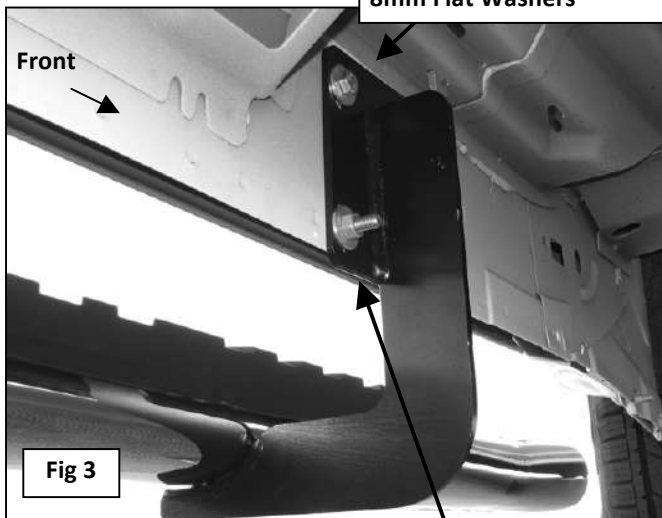

Fig 3
4. Partially attach the passenger side front Mounting Bracket to the Clip Nuts using the included (2) 8mm x 30mm Hex Bolts, (2) 8mm Lock Washers and (2) 8mm Flat Washers, (**Figure 3**). **NOTE:** Cradles on the Mounting Brackets should face the front of the vehicle.
5. Bolt the (2) bottom holes in the Mounting Bracket to the (2) holes in the pinch weld using the included (2) 8mm x 30mm Hex Bolts, (2) 8mm Lock Washers, (4) 8mm Flat Washers and (2) 8mm Hex Nuts, (**Figure 3**). Do not tighten hardware at this time.
7. Carefully unwrap and position the Sidebar onto the (2) Mounting Brackets. Bolt the Sidebar to the Brackets with (4) 8mm x 25mm Hex Bolts, (4) 8mm Lock Washers, and (4) 8mm Flat Washers, **(Figures 3 & 4)**. Do not tighten at this time.